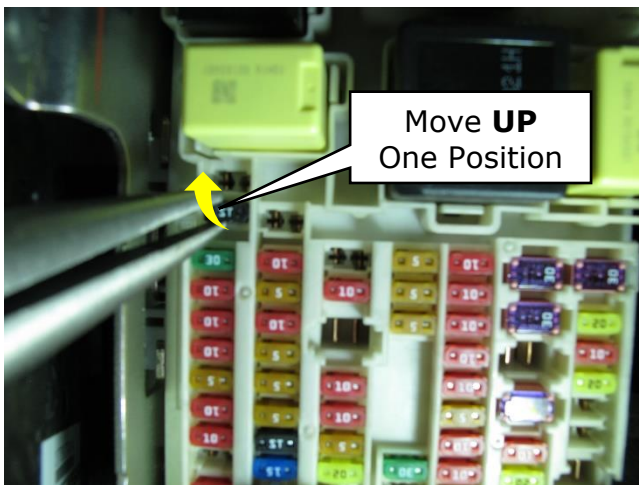

Figure 7
- Refer to Figures 7 and 8 (The glovebox was removed for these photos, glovebox removal is not required for the repair)